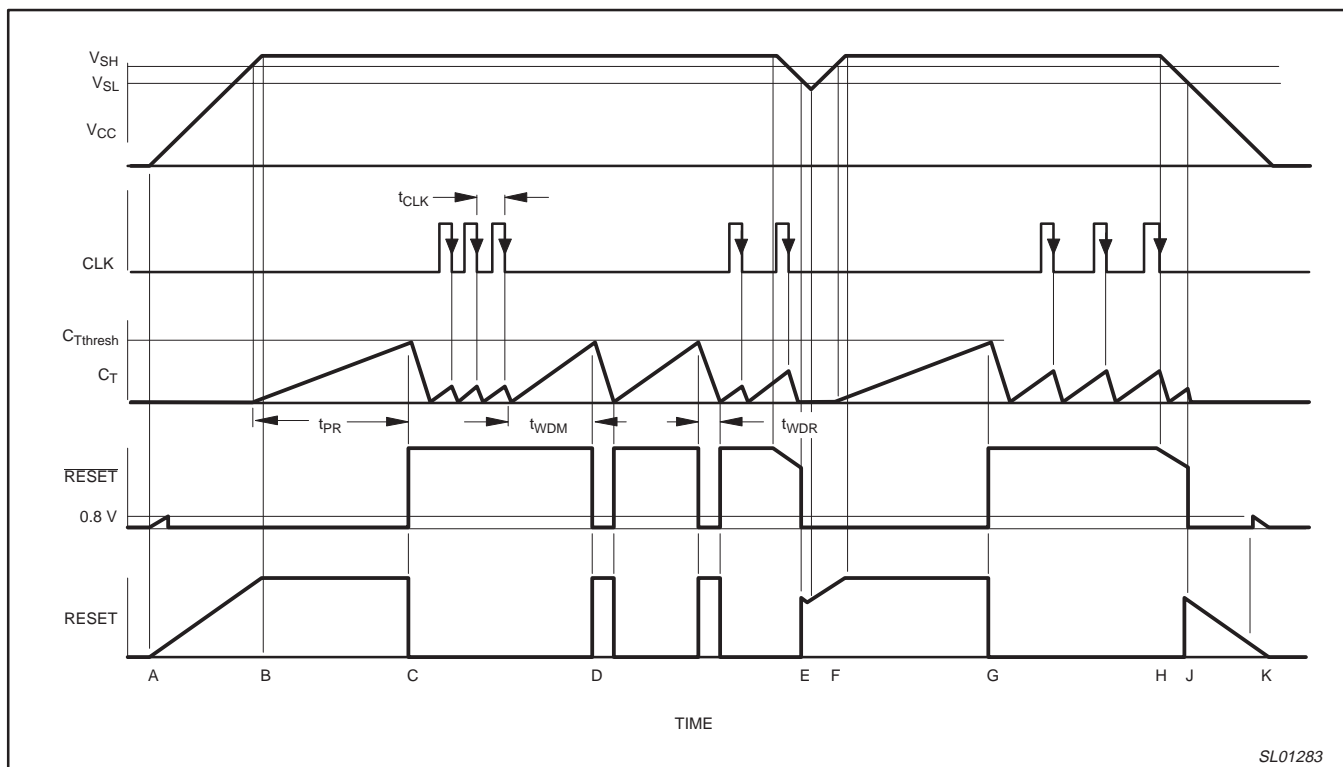

Figure 18. Timing diagram.
1. 'Watchdog monitoring time' is the duration from the last pulse (negative-going edge) of the timer clear clock pulse until reset output pulse occurs (see Figure 18). A reset signal is output if a clock pulse is not input during this time.
2. 'Watchdog reset time' is the reset pulse width (see Figure 18).
The timing diagram shown in Figure 18 depicts the operation of the device. Letters indicate events on the TIME axis.